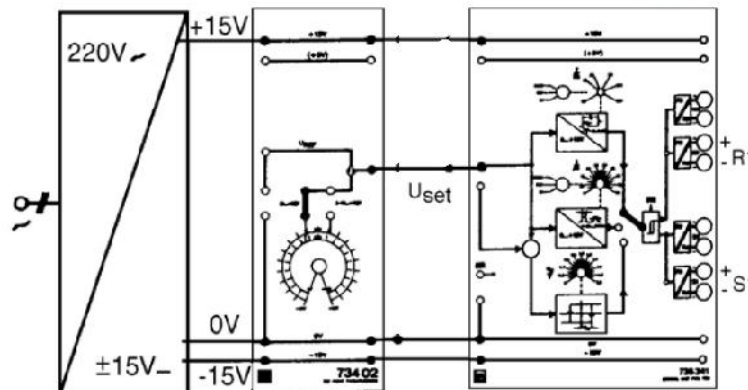

Figure 6.1 Configuration of the control equipment for a DC-DC chopper
- 1) To setup the Controller for the converter, connect the following equipment as shown in Figure 6.1; DC Power Supply, Setpoint Potentiometer, and Control Unit PWM/PFM/ZPR. Refer to Appendix B for more details about the Control Unit.